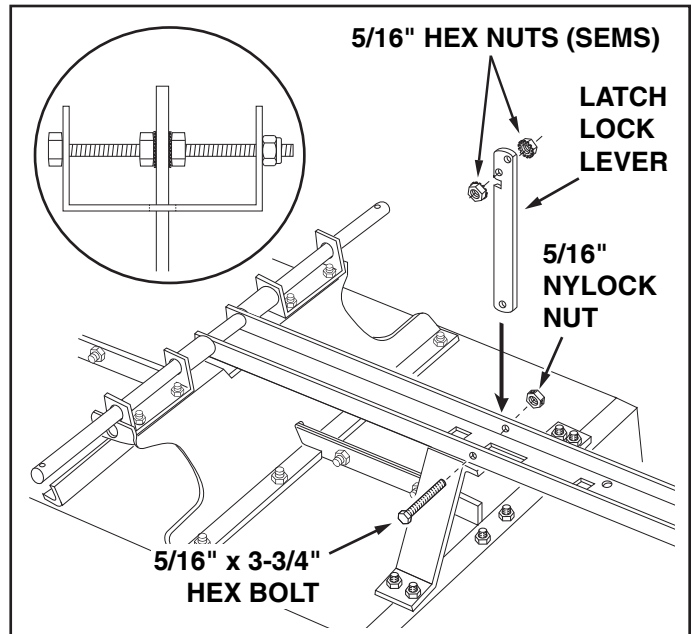

FIGURE 10
18. Place the latch lock lever through the slot in the tongue as shown in figure 10. Assemble the 5/16" x 3-3/4" hex bolt through the tongue, the lever and two 5/16" hex nuts (SEMS) (one on each side of the lever). Assemble a 5/16" nylock nut onto the end of the bolt so that the bolt has no end play, but can rotate freely. Tighten the two 5/16" hex nuts (SEMS) against the sides of the latch lock lever so that the lever is centered in the slot. See figure 10.